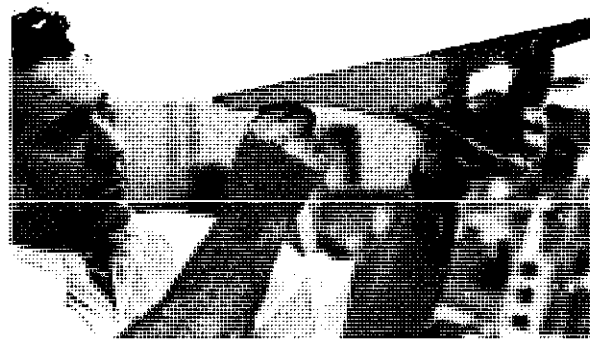

Fig. 8-19 Sighting for depth of cut.
2. Turn the adjusting nut until the cutting edge projects enough to cut the desired thickness of shaving. See figure 8-19.